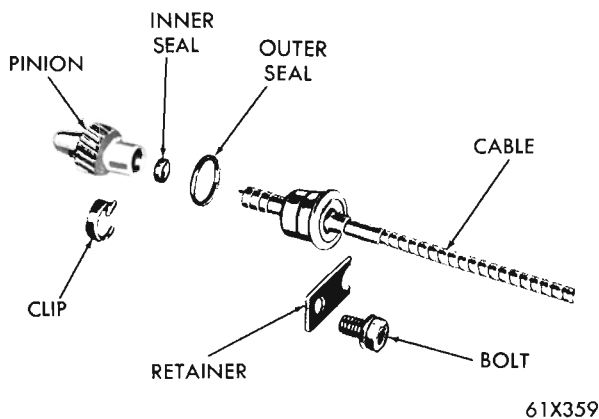

Fig. 44—Speedometer Pinion (Disassembled)
- (2) To replace the pinion and/or oil seal, pry the clip off the pinion and slide the pinion assembly off the cable. Install a new seal on the cable housing.
- (3) If transmission fluid is found in the cable housing, replace the seal inside the pinion bore (Fig. 44). Pry the old seal out of the pinion bore. Place a new seal on the end of the cable with the lip toward the cable housing, then slide the pinion over the seal and cable. Secure with the spring clip.
- (4) To install, push the pinion and sleeve assembly into the extension housing so the sleeve flange is tight against the housing, then install the retainer and screw. Tighten the screw to 150 inch-pounds torque.